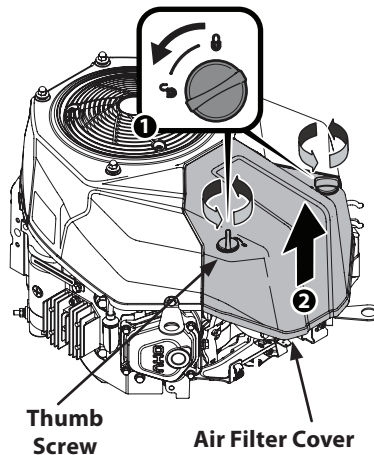

Figure 6-4
NOTE: Standard air filter and cover shown in Figures 6-4, 6-5 and 6-7. Heavy duty air filter and cover is serviced the same way.
2. Remove the air filter cover. See Figure 6-4.